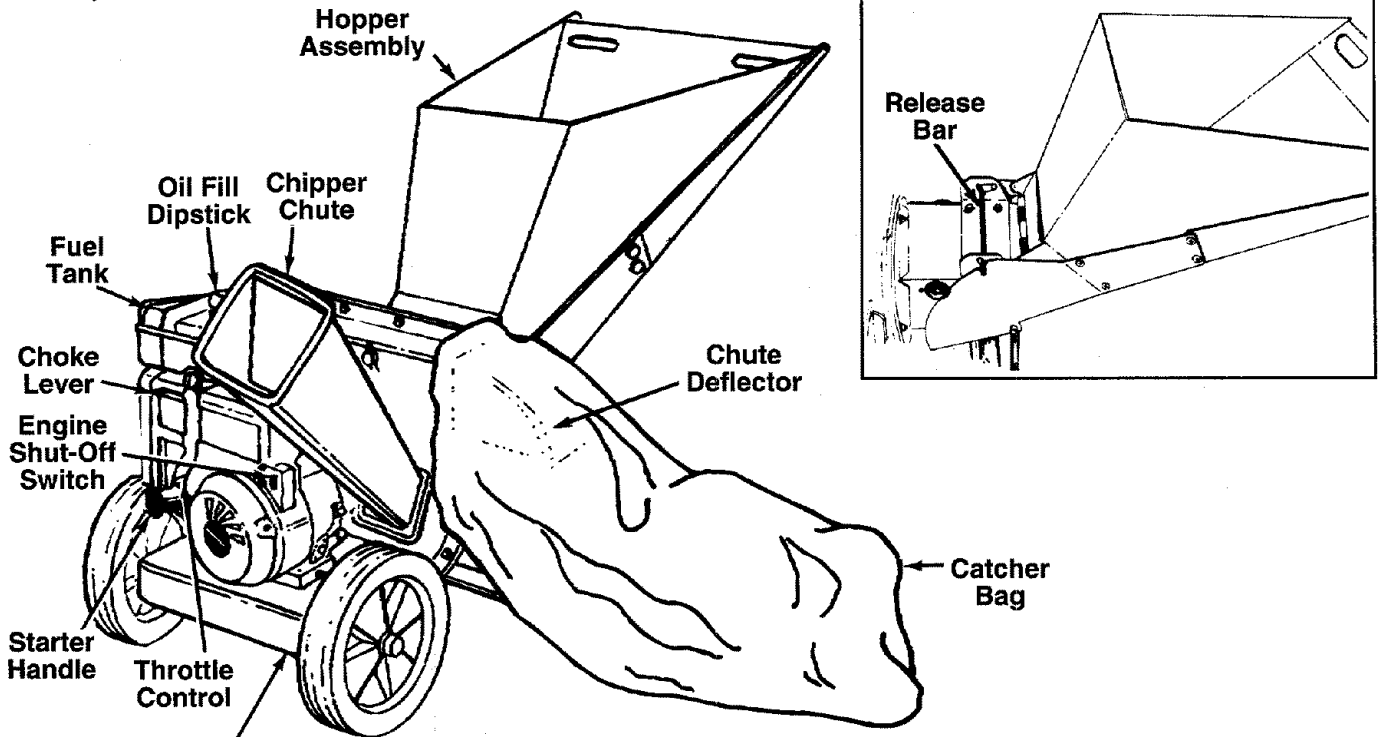

FIGURE 6. Front of Chipper-Shredder
**NOTE:** To determine right and left hand sides of your chipper-shredder, stand behind the unit with the engine the farthest away from you. See figure 6.
**RELEASE BAR**—Used to release the hopper when raising or lowering. See figure 6.
**CHOKE LEVER**—Used to enrich the fuel mixture in the carburetor when starting a cold engine. See figure 6 and 14.
**STARTER HANDLE**—Used to manually start the engine. See figure 6.
**ENGINE SHUT-OFF SWITCH**—Used to stop the engine. See figures 6 and 14.
**THROTTLE CONTROL**—Permits selection of fast or slow engine speed. See figures 6 and 14.
- Move engine shut-off switch to OFF position. See figure 6 and 14.